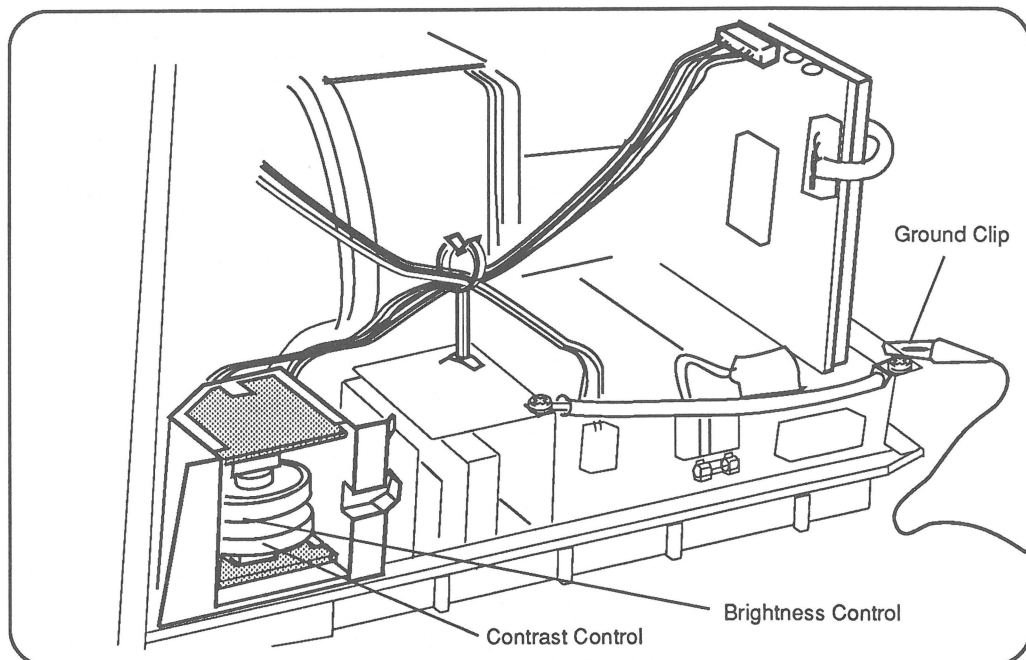

Figure 3-6 Setting the User Controls
2. **Figure 3-6.** Attach the small ground clip from the high-voltage probe to the metal monitor chassis.
3. **Figure 3-6.** Set the Brightness control to detent (midrange), and set the Contrast control to maximum contrast (turn the knob away from the screen).